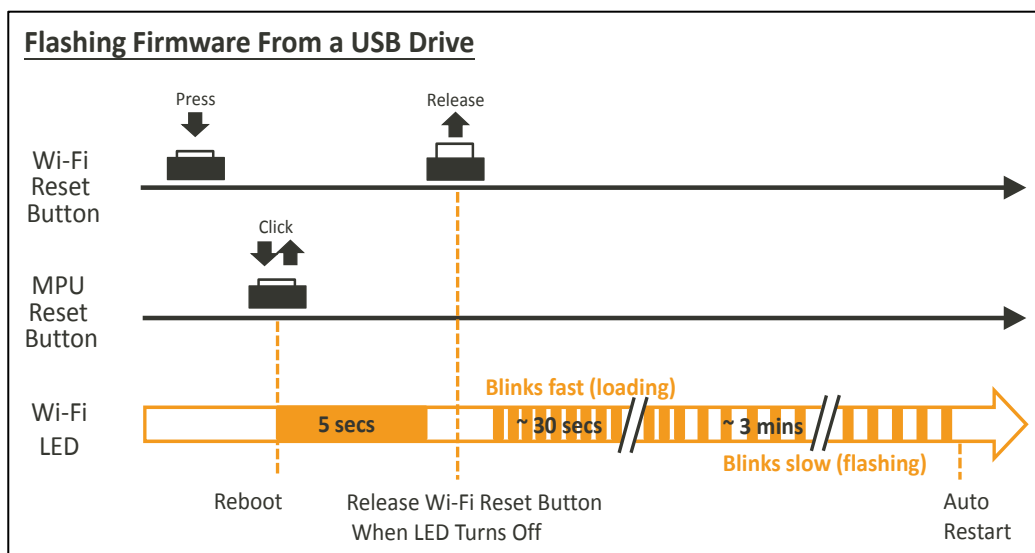

Figure 27 Wi-Fi LED Status During Firmware Upgra
- 3) Press the Wi-Fi and MPU (Reset) button, then release the MPU Reset button only but hold the Wi-Fi button for at least 5 seconds and release (Wi-Fi LED turns off), see Figure 27 for detailed LED status. Do not press the Wi-Fi button for longer than 20s or it will upgrade the bootloader.